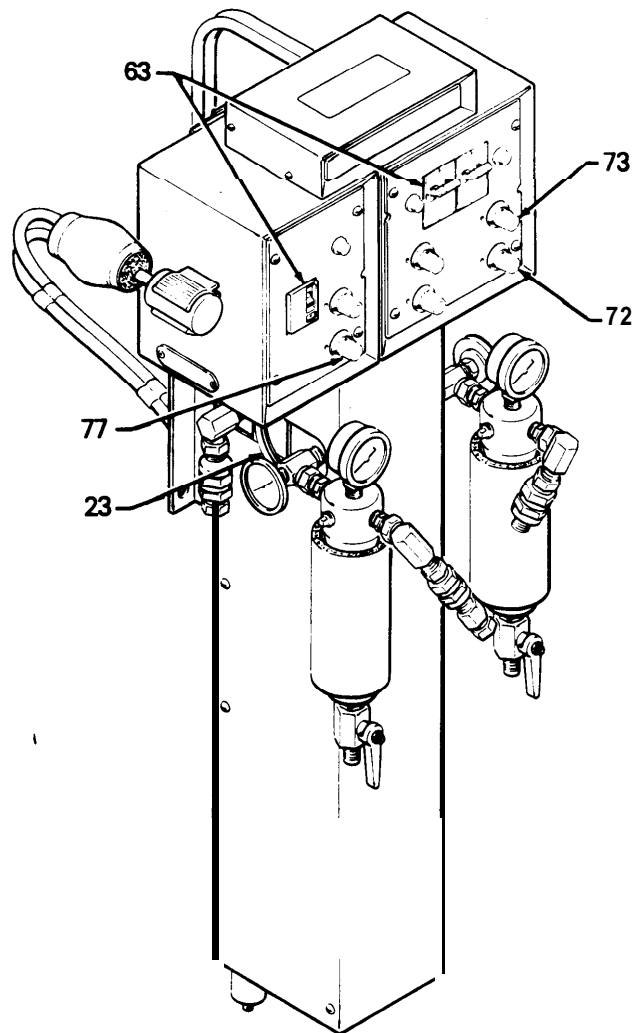

Fig 20
1. Open the main air supply valve (1).
2. Open the main air supply valve and the air valves (8) to the feed pumps (3). See the Typical Installation on page 3.
3. Adjust the air regulator (212) to the proportioning pump motor to 50 psi (3 bar).
4. Slowly open the air valve (214) to the proportioning pump.
5. Start the heaters. See Fig 20.